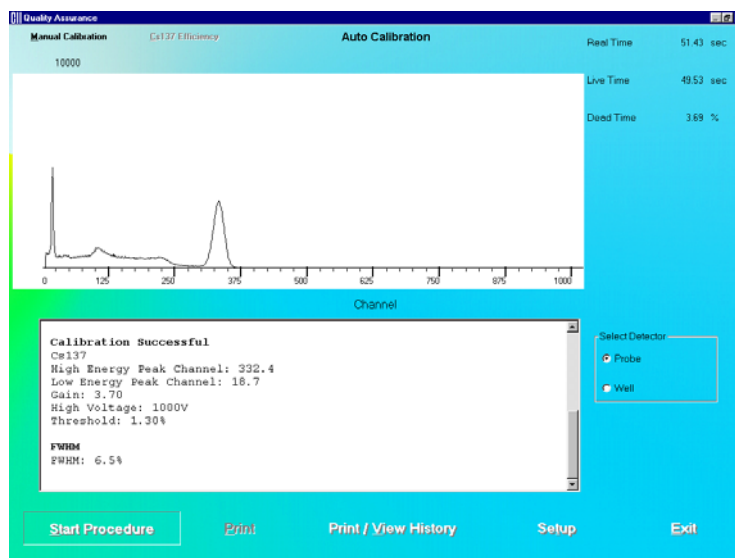

Figure 5-5
- After calibration is completed, the results will display "Calibration Successful" as shown in Figure 5-5 below.